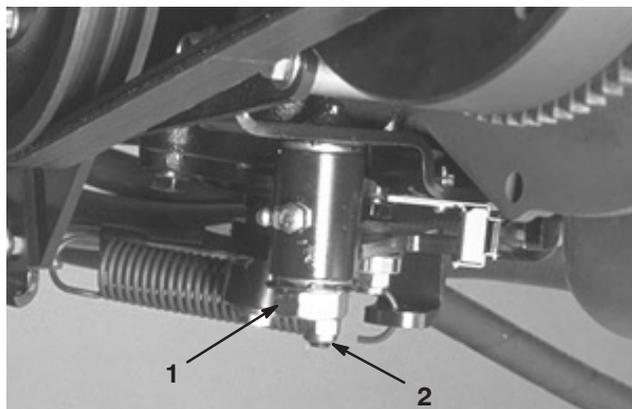

Figure 53
- Loosen the locknut on the traction adjustment cam (Fig. 53).